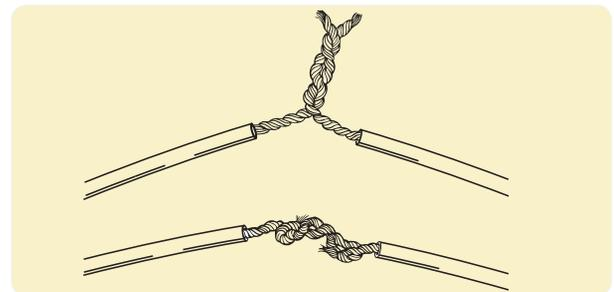

Figure 8.9 Two wires joined together
- 4 Fold the twisted wires back around one of the wires to make a strong joint, as shown in Figure 8.9.